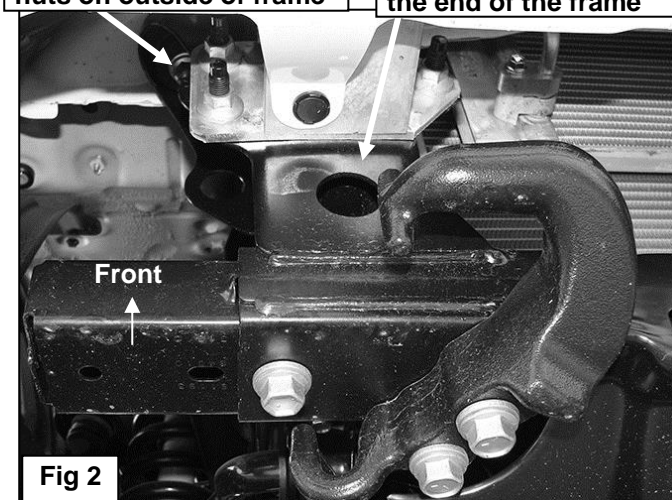

Fig 2
2. Start installation at the passenger side, front of the vehicle. Remove the (2) outer factory hex nuts attaching the bumper mount to the end of the frame, **(Figure 2)**. **NOTE:** It may be necessary to temporarily remove the factory tow hook from the passenger side